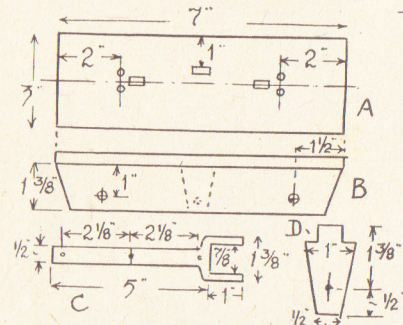

Fig. 1—The main platform parts
The body parts are shown grouped together in Fig. 1. The pecking board (H) can be cut from  $\frac{3}{8}$  in. deal. Run a line along the middle and on this bore two pairs of  $\frac{1}{4}$  in. holes, just  $\frac{1}{2}$  in. apart, for the chicks to be fixed in. About  $\frac{1}{4}$  in. in front of these, and between them, cut  $\frac{1}{4}$  in. by  $\frac{1}{2}$  in. slots for the operating cords. In the centre of the board, where shown, cut another  $\frac{1}{4}$  in. by  $\frac{1}{2}$  in. slot for part (D) to fit in.